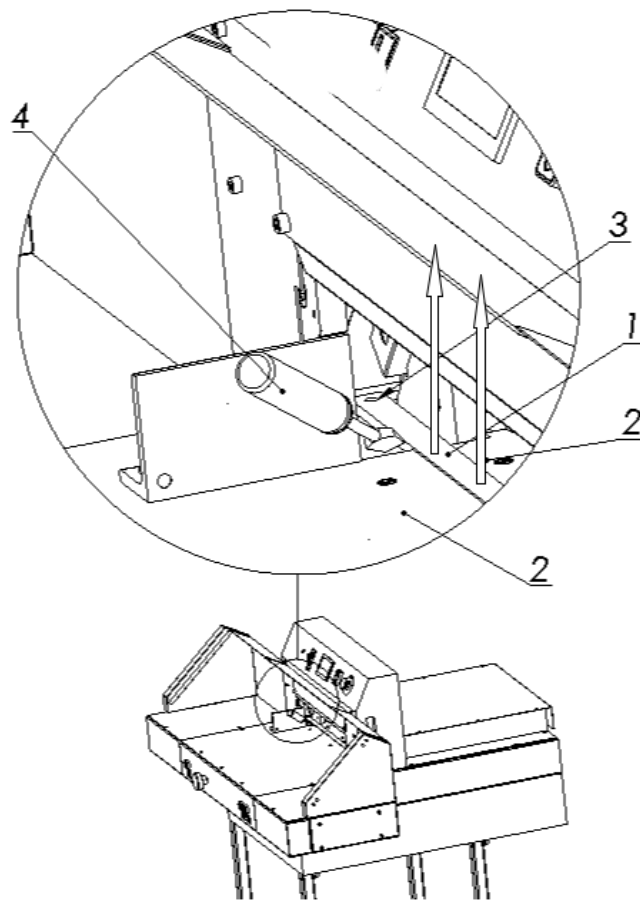

Figure 35 Removing the cutting stick.
8.2.1 Lift the cutting stick 1 with a screwdriver 4 (fig. 35)
8.2.3 Insert the replaced stick into the channel between the tables 2 and place it on the dowel 3 (Fig. 35)